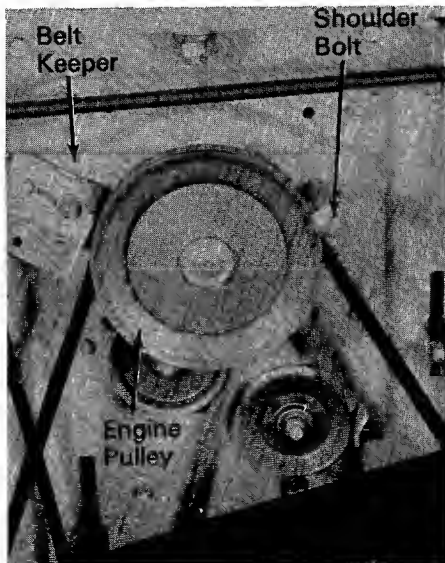

Figure 18.
2. Remove the belt keeper and shoulder bolt on the engine pulley. (See figure 18.)